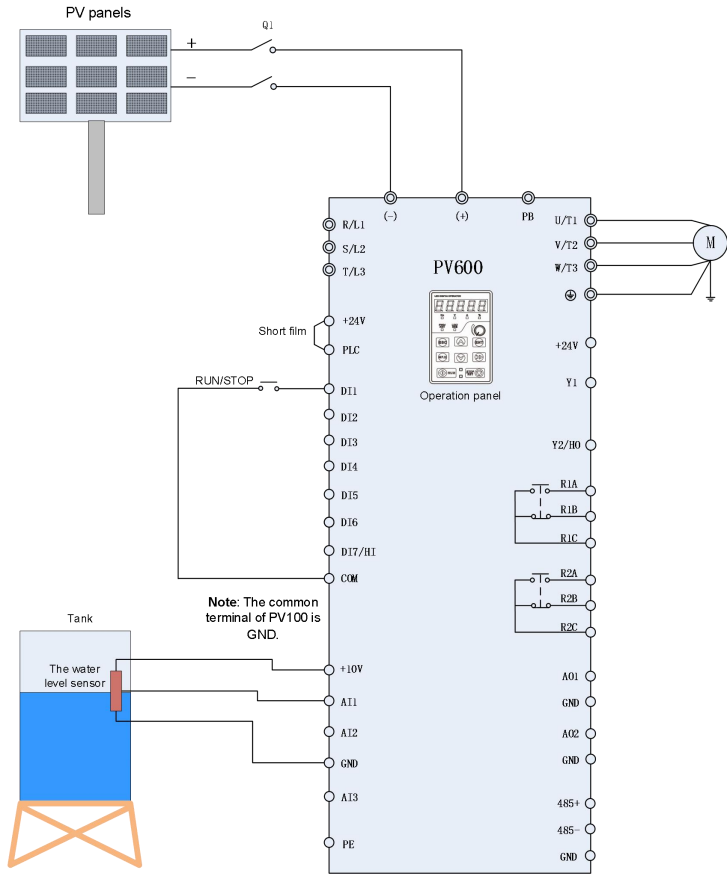
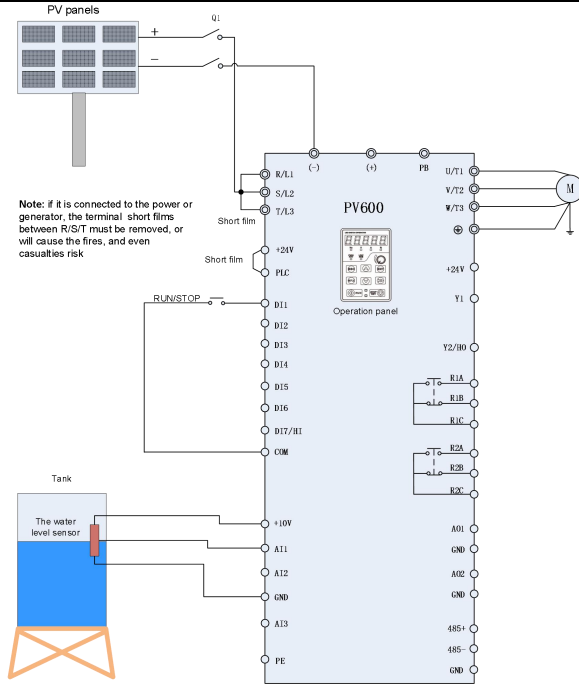

Figure 2-1 PV Cell Power Supply Wiring Diagram 1
Figure 2-2 PV Cell Power Supply Wiring Diagram 2
1. Wiring drawings of below inverters shown as Figure 2-1: PV600 series 3 phase 690V inverters with power lower than 37kw.
Wire drawings of below inverters shown as Figure 2-2: PV600 series 3phase 690V inverters with power higher than 45kw.
1. Please wirings as Figure 2-1 or Figure 2-2 according to different inverter powers, check and confirm the wirings to be correct, and then close Q1.